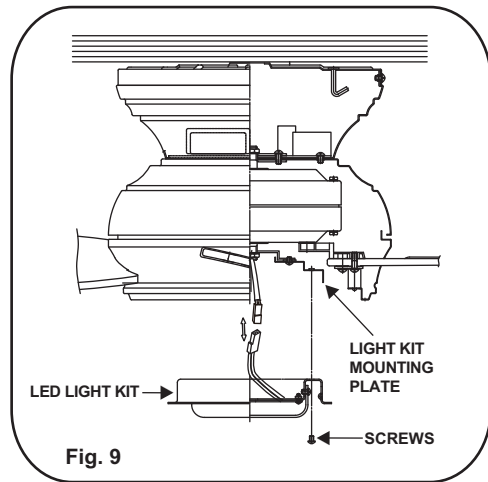

Fig. 9
2. While holding the LED light kit under the fan motor assembly, make the 2-pin wire connections (Fig. 9):
3. Place the key holes from the LED light kit over the 2 screws previously loosened from the light kit mounting plate, turn light kit until it locks in place at the narrow section of the key holes. Secure by tightening the 2 screws previously loosened and the one previously removed. (Fig. 9).